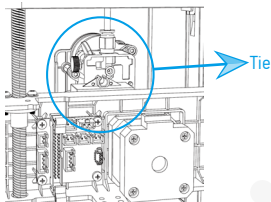

Figure 1
03. Cut the cable tie that secures the print head. **Be careful not to cut the electronic wire by mistake!** The position of the cable tie is shown in Figure 1 below.
- The filament holder assembly is complete (see Figures 1–4 for detailed steps).